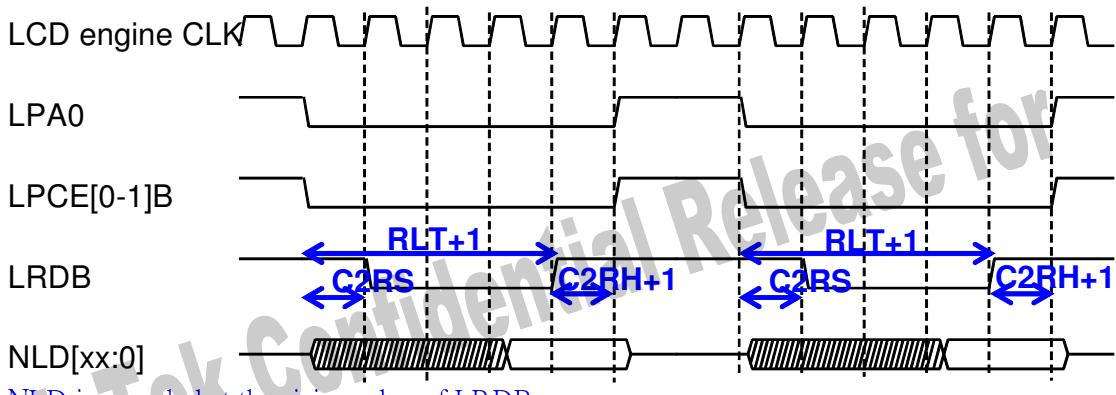

**Figure 45** Parallel interface write timing diagram
**WST** Write Wait State Time, see Figure 45.
**C2WS** Chip Select (LPCEB0) to Write Strobe (LWRB) Setup Time, see Figure 45. **C2WS must <= WST.**
**C2WH** Chip Select (LPCEB0) to Write Strobe (LWRB) Hold Time, see Figure 45.
**C2WS** Chip Select (LPCEB1) to Write Strobe (LWRB) Setup Time, see Figure 45. **C2WS must <= WST.**
**C2WH** Chip Select (LPCEB1) to Write Strobe (LWRB) Hold Time, see Figure 45.